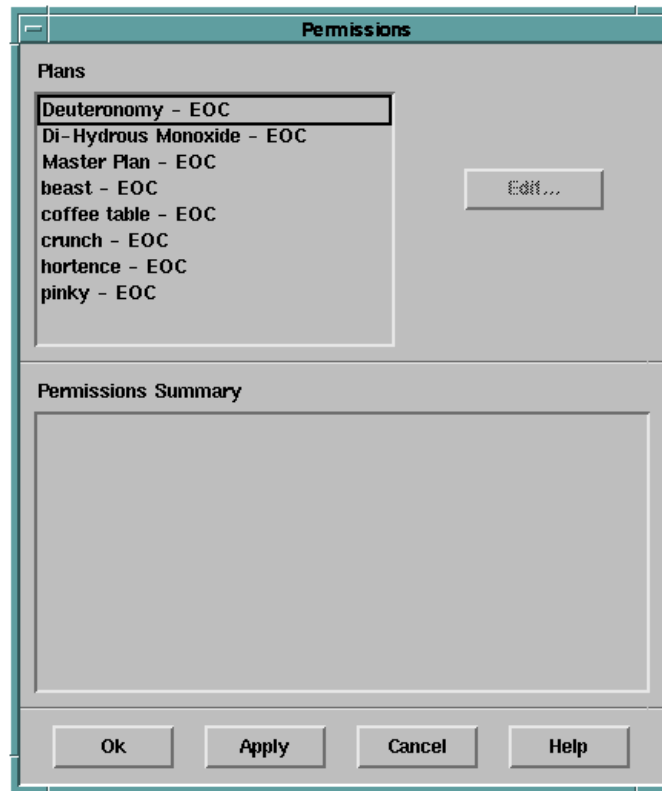

Figure 8.5.10.1-1. Permissions Dialog Box
1. Select **Permissions...** under the Timeline File menu on the Timeline. The Permissions dialog box opens (see Figure 8.5.10.1-1). The list of plans and their owners will be displayed in the upper left portion of the permissions dialog box.